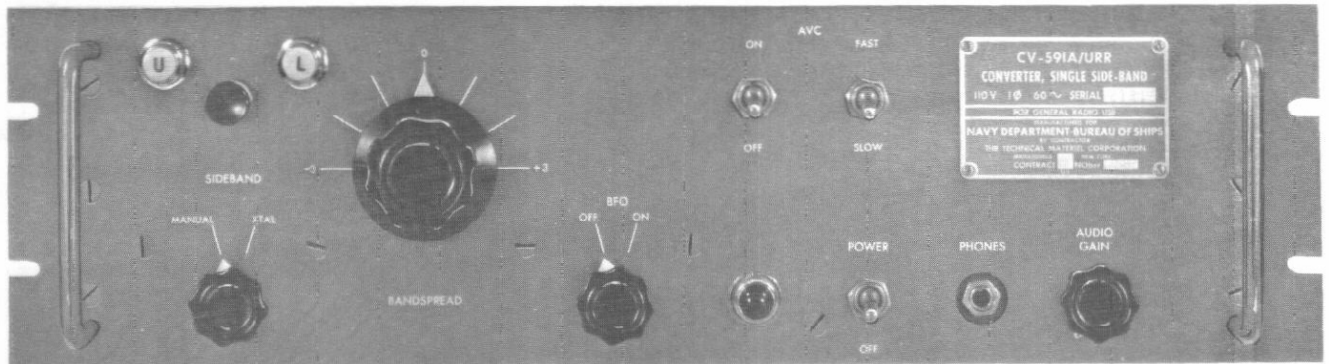
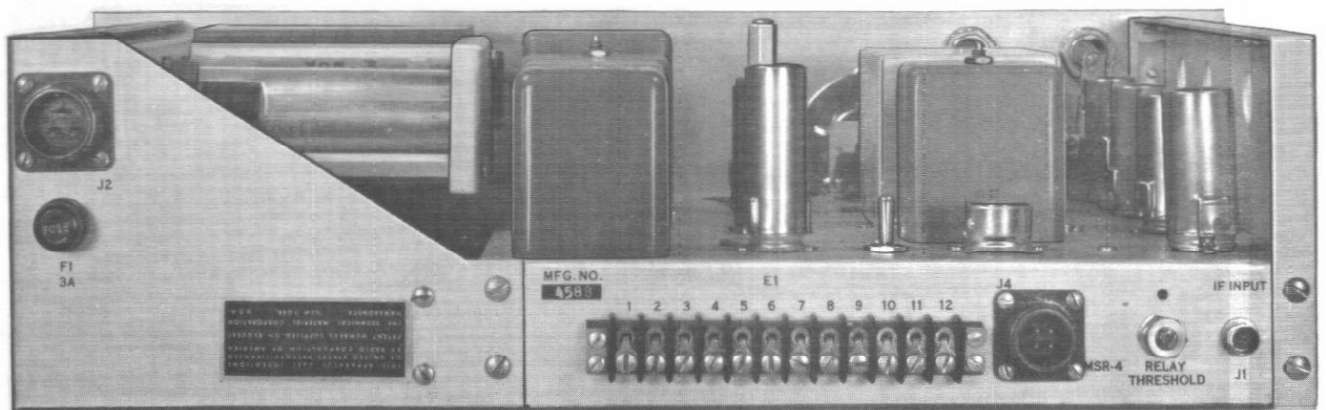

Figure 1-2. Single Sideband Converter CV-591A/URR, Front View
Figure 1-3. Single Sideband Converter CV-591A/URR, Rear View
1.2.1 The converter (figure 1-2) is a single, rack-mounted chassis weighing 24 pounds. Overall dimensions are 5-1/4 inches in height, 19 inches in width, and 13-1/2 inches in depth. All controls and indicators used during operation are mounted on the front panel. Handles secured to the front panel facilitate handling of the converter. Connectors and a terminal board, located at the rear of the converter provide for interconnection between the converter and associated equipments (see figure 1-3).